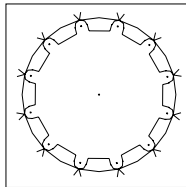

Figure 23D
4. Use a sabre saw to cut along the *inside* circle, between the 7/8" [22 mm] holes. See **Figure 23D**.